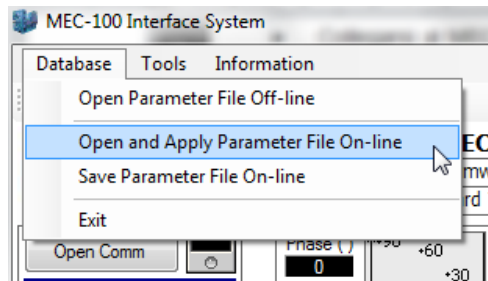

Fig. 5.6.2.a
- Click the *Database* button in the menu bar of the MEC-100 Interface System (see Fig. 5.6.2.a).